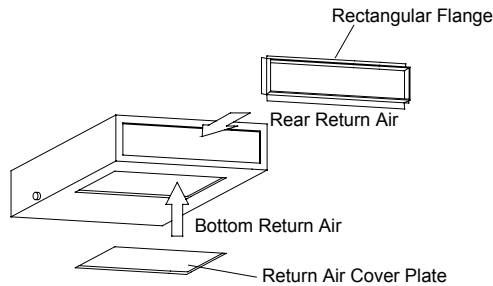

Fig.37
(2). The default installation location of the rectangular flange is at the back and the return air cover plate is at the bottom, as shown in Fig.37 .